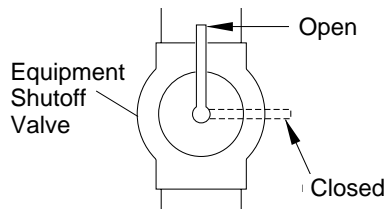

Figure 23 - Equipment Shutoff Valve
NOTICE: Most building codes do not permit concealed gas connections. A flexible gas line is provided to allow accessibility from the fireplace (see Figure 23). The flexible gas supply line connection to the equipment shutoff valve should be accessible.
1. Close equipment shutoff valve (see Figure 23).
1. Open equipment shutoff valve (see Figure 23).